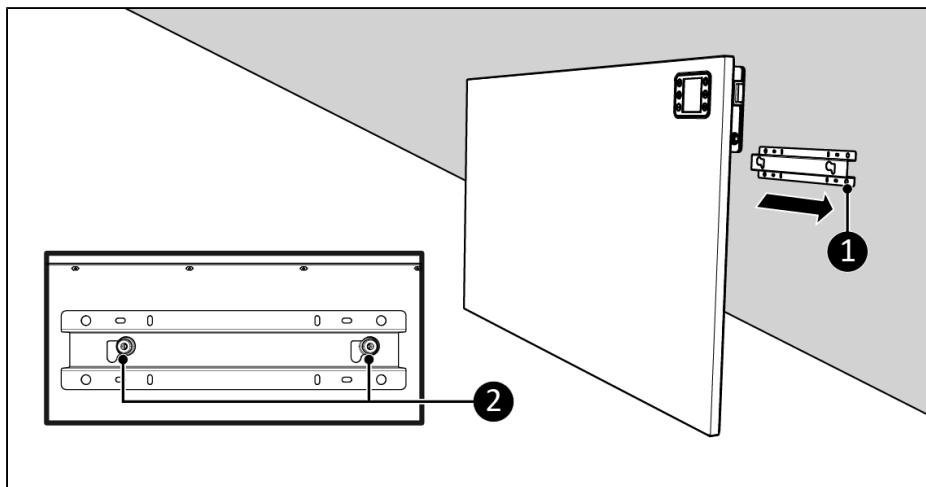

Figure 31.
9. Place the device bracket (Figure 31, pos. 2) over the wall bracket (Figure 31, pos. 1).